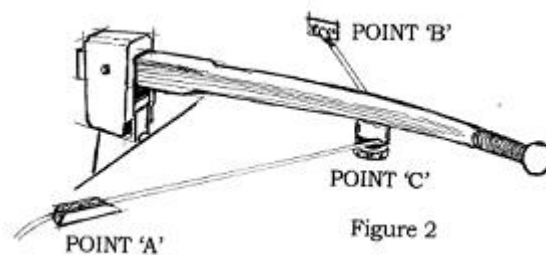

Figure 2
For boats with 'outboard' rudders (see Figure 2)
- c) The anchor points could be at points 'A' and 'B' as in Figure 2, but it will be different from boat to boat